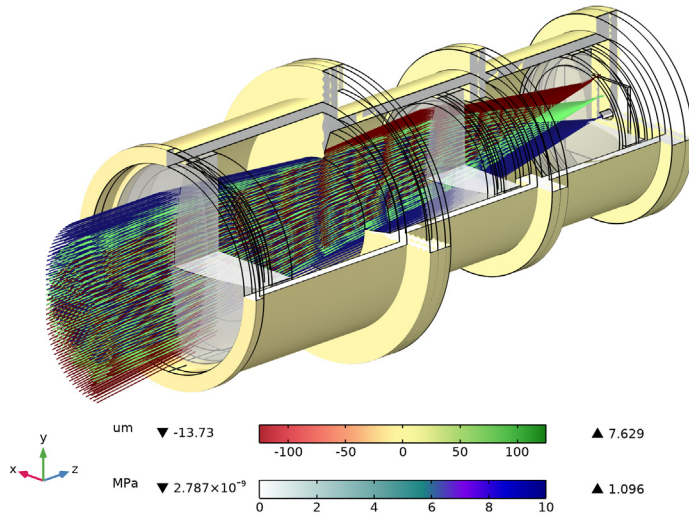

Figure 8: In this ray trace, the displacement field is shown together with the von Mises stress for a temperature  $T = 25^\circ\text{C}$ .
- 8 In the **Displacement** toolbar, click  **Plot**. Compare to Figure 8.